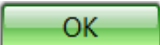

**Figure 3–68**
1. Select **File > Open** and select **WRAPPED\_PLY.prt**. The model displays as shown in Figure 3–68.